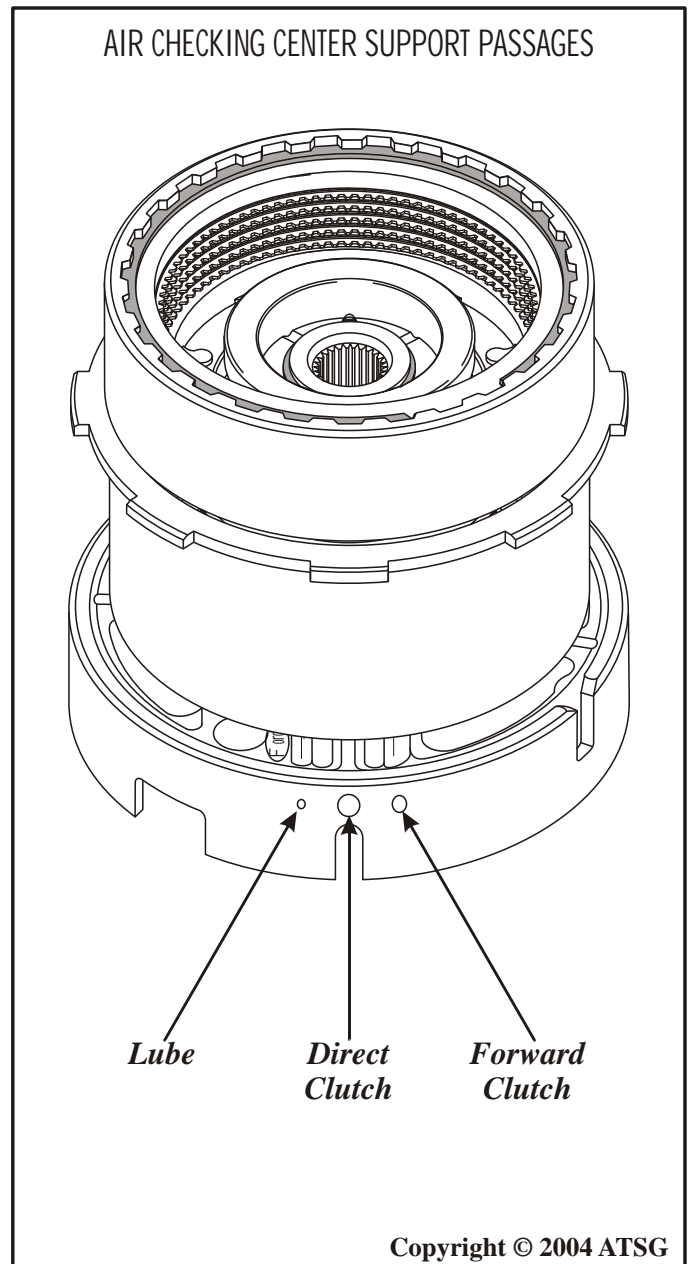

Figure 96
6. The ***only positive way*** to verify the integrity of the center support, is to assemble the forward and direct clutch housings, with the appropriate thrust bearings, onto the support, as shown in Figure 96.